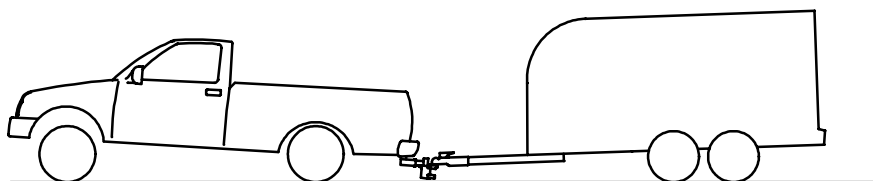
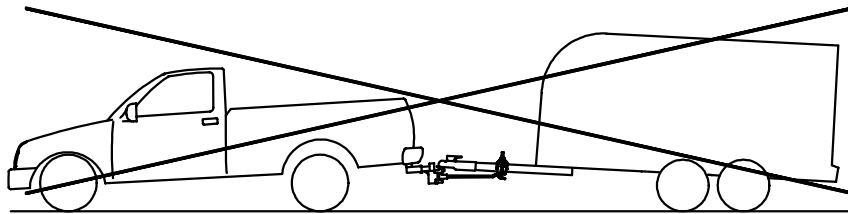

Figure 1
Figure 12
When a trailer is hitched to a tow vehicle, the tongue weight typically causes the rear of the tow vehicle to lower and the front to raise. See Figure 1.
- The front of the vehicle should never settle more than the rear. See Figure 12. If necessary increase the number of chain links between lift unit and spring bar. If there are no more links, the angle of the head assembly (2) must be decreased. The trailer must be uncoupled and the upper bolt (6e) removed from the head assembly. The head assembly is then pivoted up and a washer (6i) is removed from underneath the pin (6h) [See figure 1]. Reassemble.